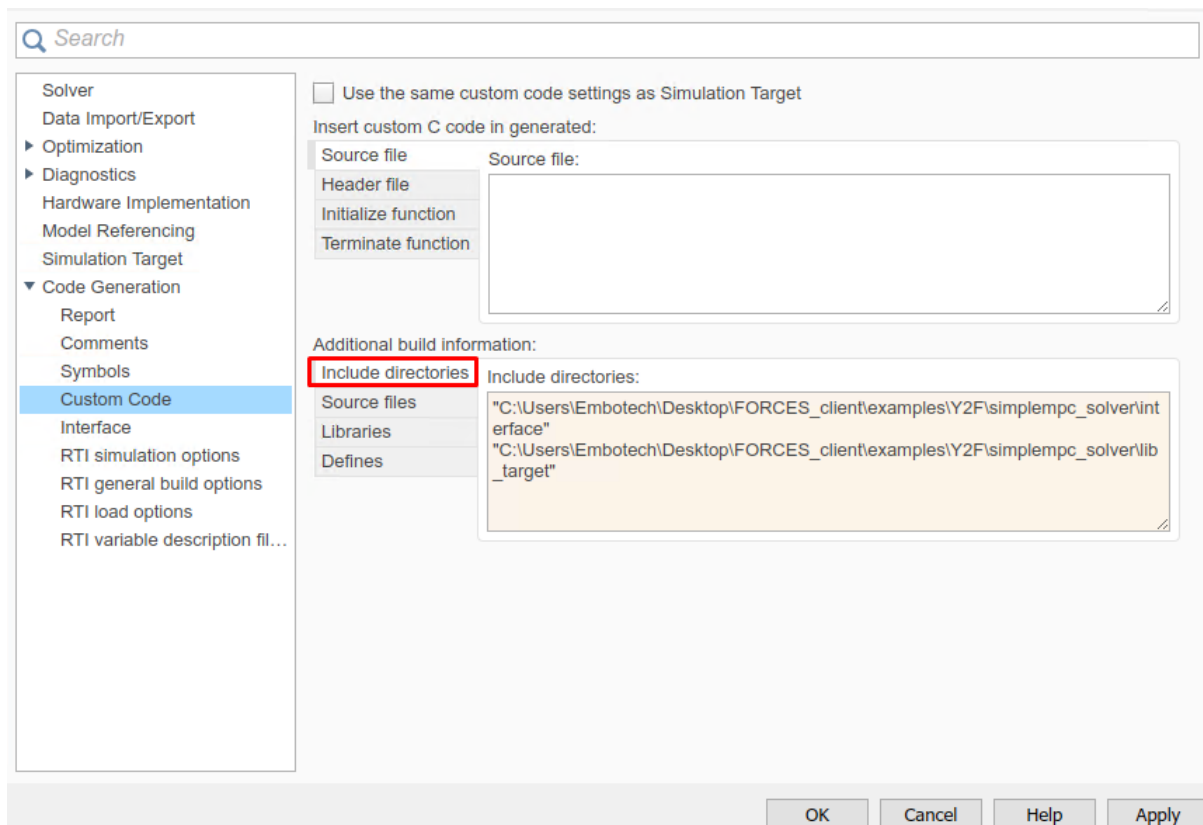

Figure 13.24: Add the directories included for the code generation.
- (Figure 13.24) In the “Code Generation/Custom Code” tab, include the directories: